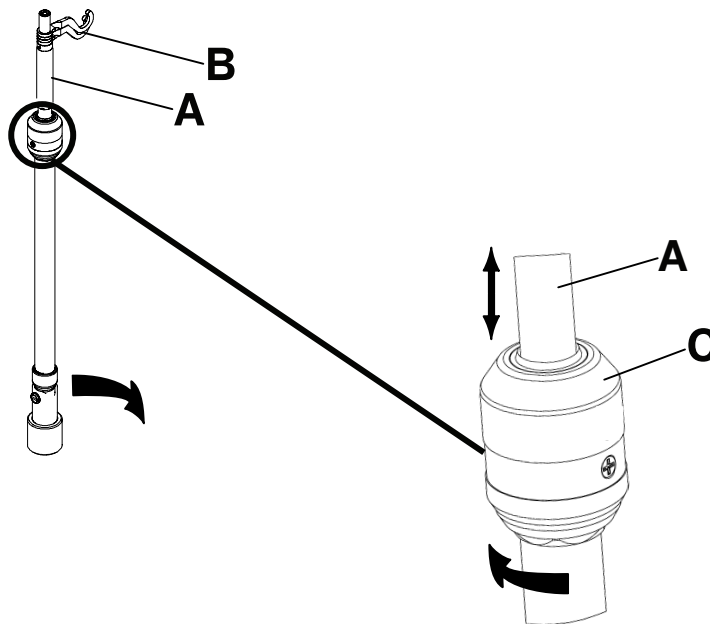

Figure 122: Operating the IV pole
3. To raise the height of the pole, pull up on the telescoping portion (A) until it locks into place at its fully raised position (Figure 122 on page 110).
4. Rotate the IV hangers to the desired position and hang the IV bags (B) (Figure 122 on page 110).
5. To lower the IV pole, turn the latch (C) until the telescoping portion lowers (Figure 122 on page 110).